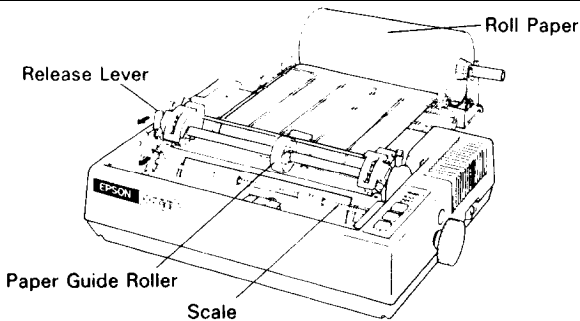

Fig. 36 Loading of Roll Paper (1)
(See Fig. 36.)
STEP 3. Pull the scale toward the front of the Printer to detach the scale from the platen. (See Fig. 36.)
STEP 4. Confirm that the paper guide roller is at the center of the sprocket shaft. If not, set it at the center of the shaft. (See Fig. 36.)
STEP 5. Insert the end of the roll paper between the frame and the plastic roller of the separator. (See Fig. 36.)